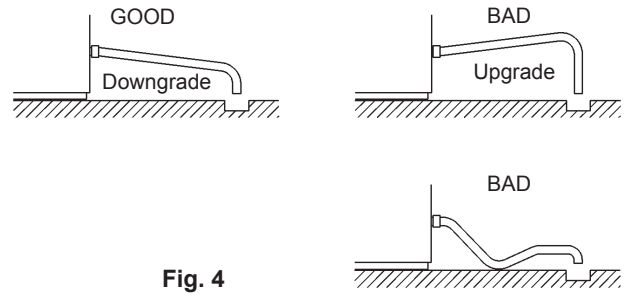

Fig. 4
* To prevent a backflow into the storage bin, the outlet hose must be laid as shown in Fig. 4.